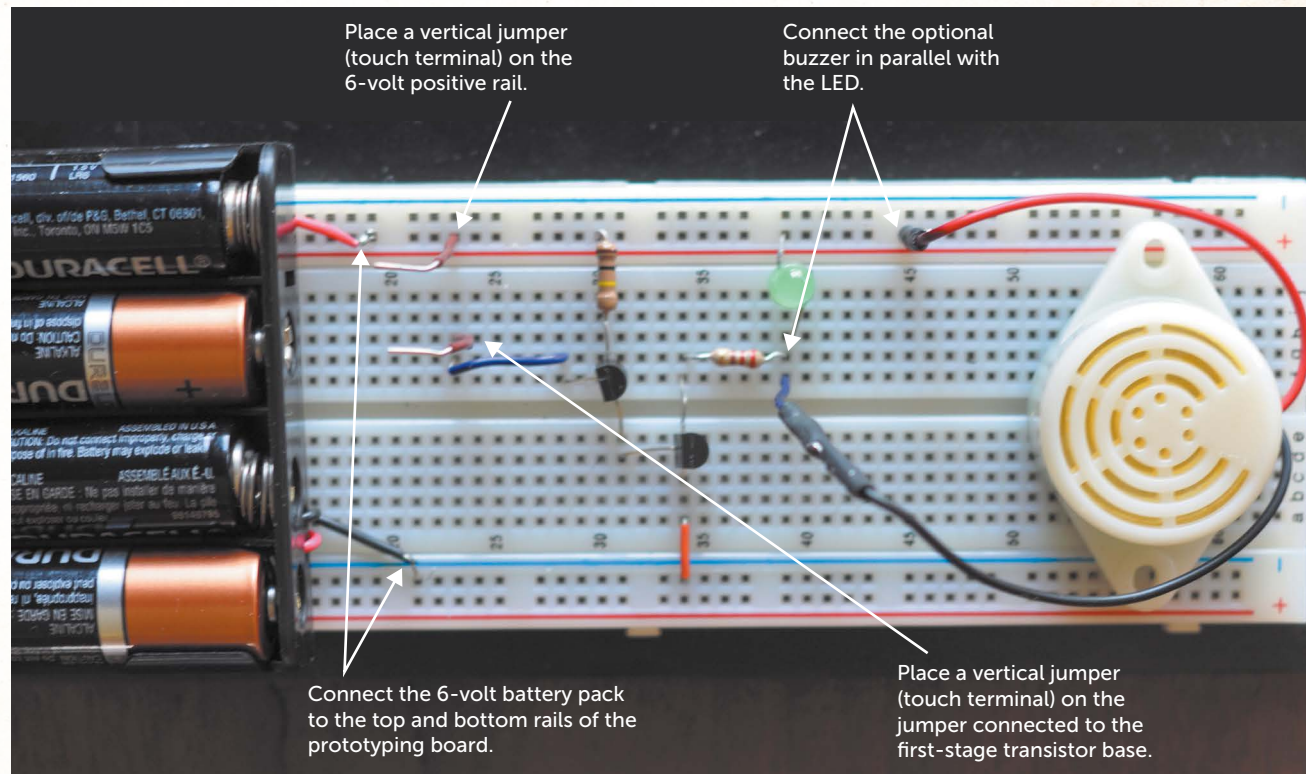

Figure 4.5: Connecting the battery pack
8. Now refer to Figure 4.5. You'll need to use two jumper wires placed vertically on the prototyping board as your touch switch. Place one of the wires on the positive 6-volt rail and connect the other to the first-tage transistor base.
10. Finally, connect your 6-volt battery pack to the positive and negative rails of the prototyping board as shown in Figure 4.5.